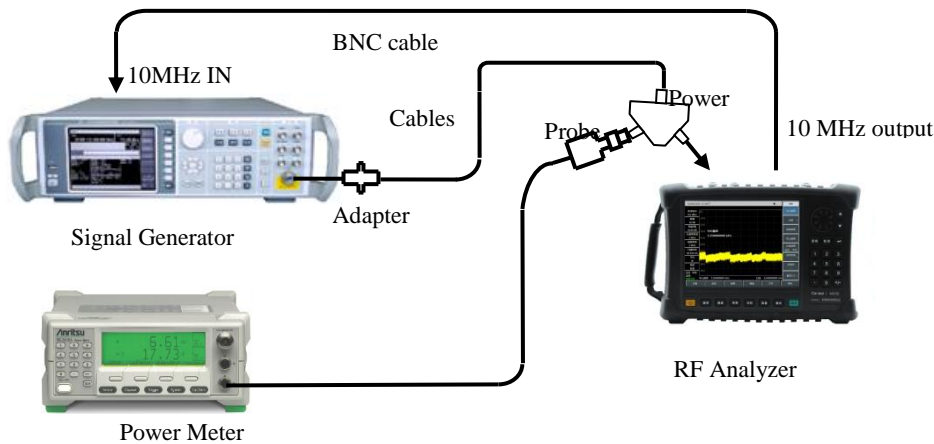

Figure 16-18 Test Settings for Overall Level Uncertainty
- Connect the testing equipment as shown in Figure 16-18, and connect the SUM port of the power splitter, the port PORT1 and the port PORT2 to the radio frequency input port of the instrument and the power probe respectively.